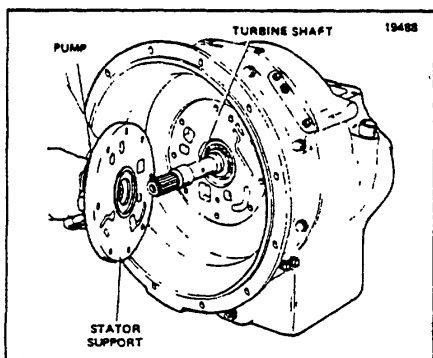

Figure 1-4. Pump Removal
- Slide converter off turbine shaft. Then mark the pump and the housing to ensure the proper reinstallation, and remove capscrews holding the pump and collector ring to converter housing. It may be necessary to tap the pump assembly with a rawhide hammer to free it from the gasket. (See Figure 1-4.)
1. Remove capscrews which mount the pump assembly to the housing and remove pump. (See Figure 1-4.)